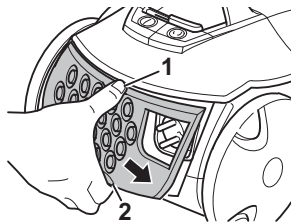

Fig. 25
5. Then put the exhaust filter cover back again. First hook this in from the top (Fig. 25/1) and then press it down (Fig. 25/2) until it clicks audibly and noticeably into place.